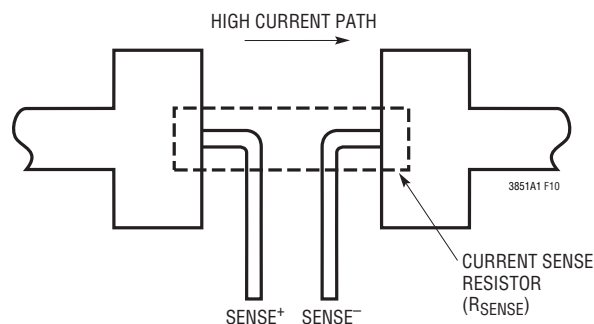

Figure 10. Kelvin Sensing R_{SENSE}
- Are the $SENSE^-$ and $SENSE^+$ leads routed together with minimum PC trace spacing? The filter capacitor between $SENSE^+$ and $SENSE^-$ should be as close as possible to the LTC3851A-1. Ensure accurate current sensing with Kelvin connections as shown in Figure 10. Series resistance can be added to the $SENSE$ lines to increase noise rejection and to compensate for the ESL of R_{SENSE} .
- Keep the switching node (SW), top gate node (TG) and boost node (BOOST) away from sensitive small-signal nodes, especially from the voltage and current sensing feedback pins. All of these nodes have very large and fast moving signals and therefore should be kept on the “output side” (Pin 9 to Pin 16) of the LTC3851A-1 and occupy minimum PC trace area.